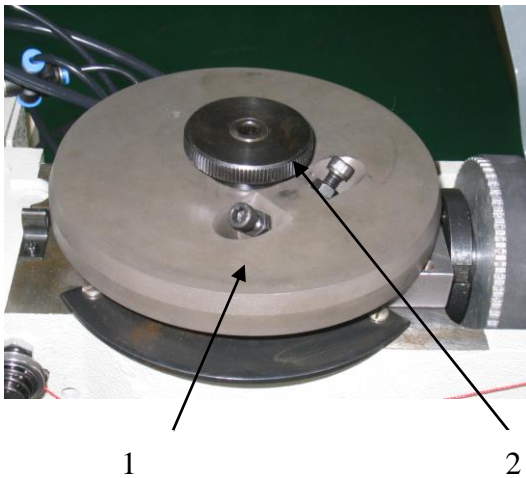

Fig.4
By changing cam(1),the zigzag type can be changed from one steps to two steps or three steps. Loosen the screw(2) , remove the cam(1) and replace the required one ( Fig.4) .